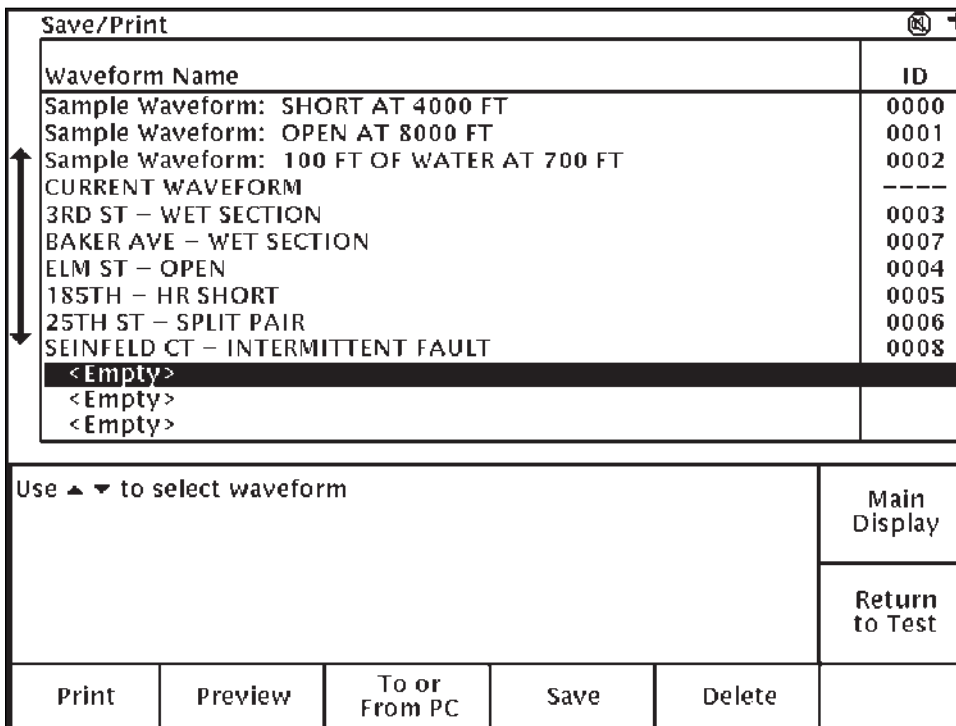

Figure 16-2. Save / Print Menu (empty slot).
- Step 2. Press the Save/Print key. This accesses the saved waveform menu, which lists the existing stored waveforms and any empty slots (see Figure 16-2).